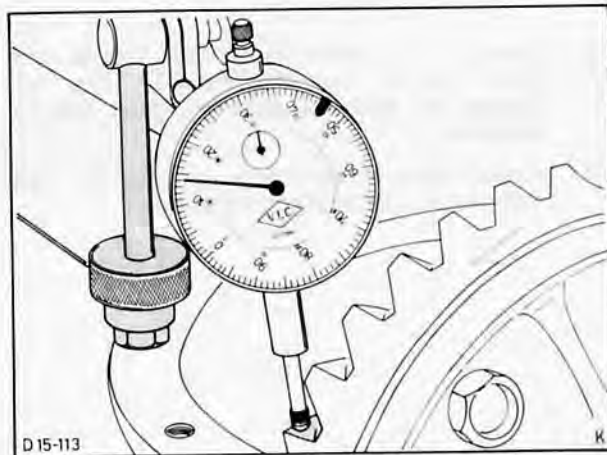

Fig. 52. Locate plunger of dial indicator at right angles on one of crown wheel teeth
38. Set backlash. To do this, locate plunger of dial indicator at right angles on one of the crown wheel teeth, Fig. 52. Tighten adjusting nuts on crown wheel side and slacken nut on differential housing side such that backlash value of 0,01 mm is attained. Tighten adjusting nut on differential housing side to give the specified backlash value of 0,12—0,22 mm. Rotate gear several times and recheck backlash measurement at three points.